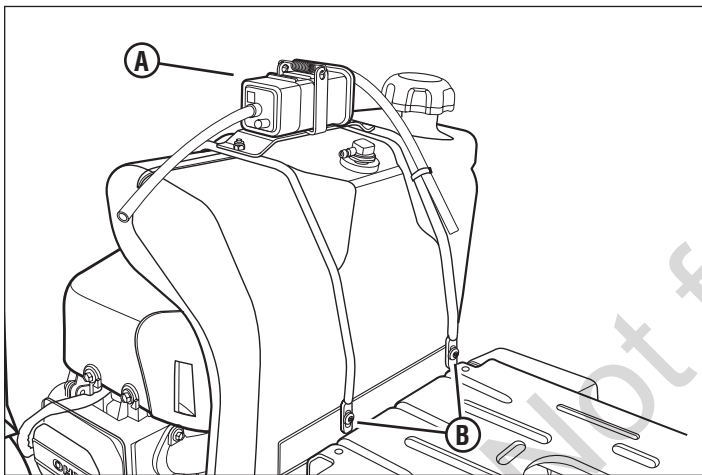

Figure 6
- Install the canister/holder assembly (A, Figure 6) over the fuel tank. Press down on the canister/holder assembly while securing the bottom of the assembly to the tank bracket with two torx screws (B). Tighten securely.